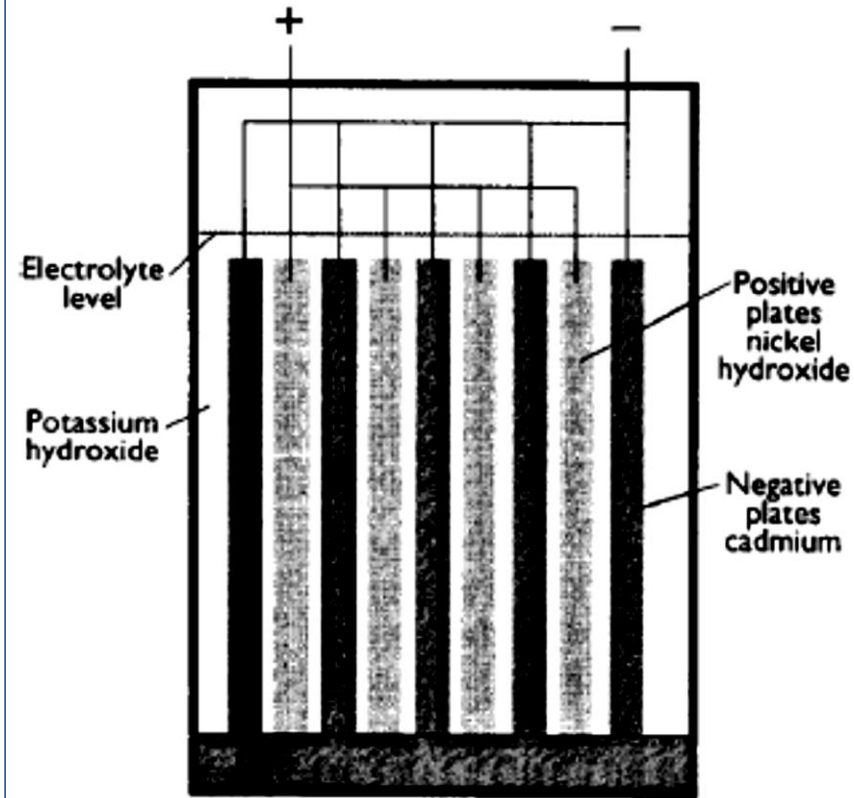

Figure 5.10 Simplified representation of a Nicad alkaline battery cell
- The 2H2O is actually given off as hydrogen (H) and oxygen (O2) as gassing takes place all the time during charge.
- The cell is discharged at a cell voltage of 1.1V. Figure 5.10 shows a simplified representation of a Nicad battery cell.